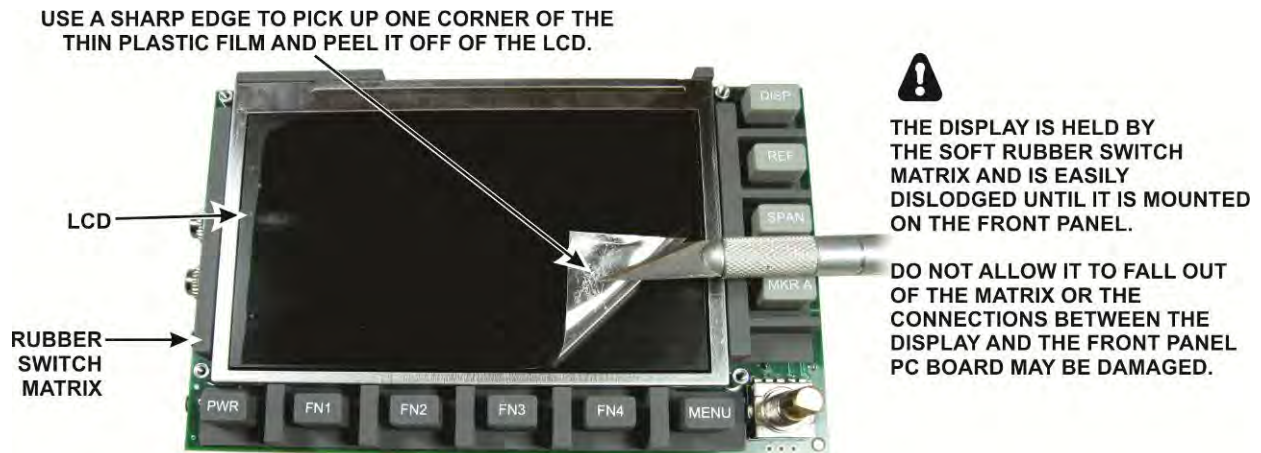

Figure 28. Removing the Plastic Film from the LCD.
□ Replace the LCD in the rubber matrix and lay the front panel board face up on your work table. Remove the thin plastic film over the LCD using a sharp edge to pick up one corner as shown in Figure 28 and then peel the plastic off of the LCD.